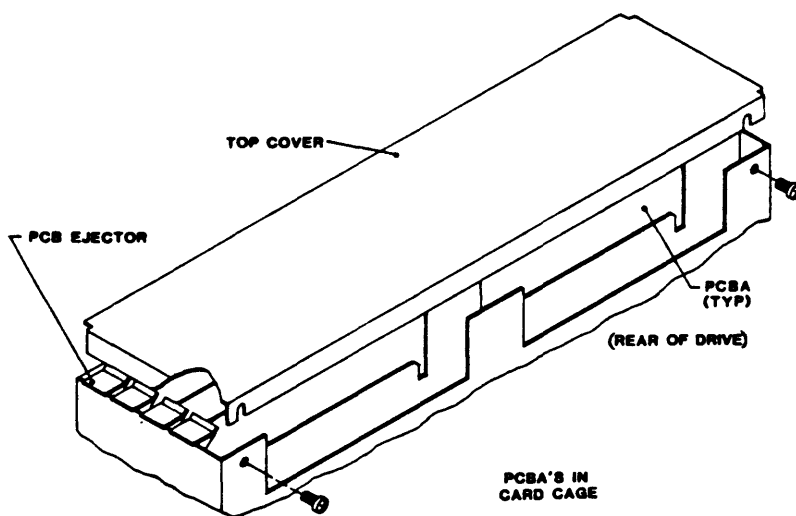

Figure 4-4 Card Cage
4.3.2 PRINTED CIRCUIT BOARD ASSEMBLIES IN CARD CAGE (Fig. 4-4)